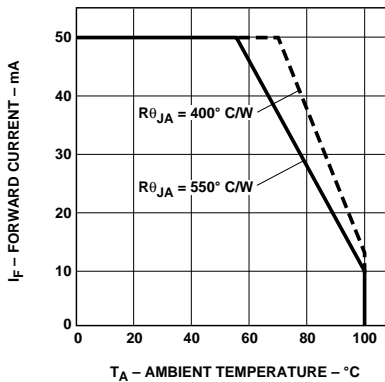

Figure 6. Maximum Forward DC Current vs. Ambient Temperature. Derating Based on  $T_{j\text{MAX}} = 110^\circ\text{C}$ .
3. Derate linearly as shown in Figure 6.